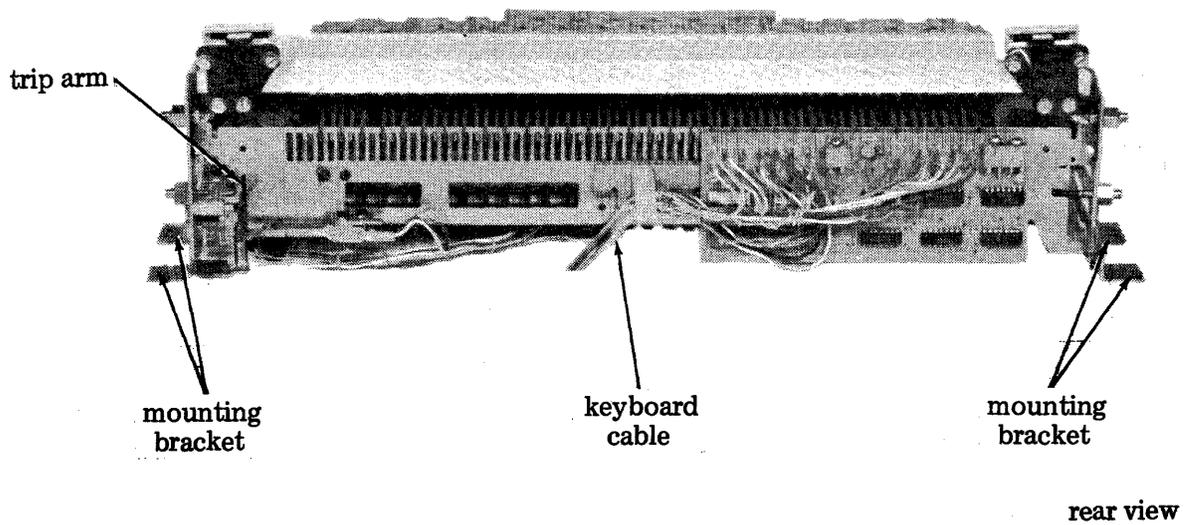

Figure 3 - Keyboard
2.05 Remove keyboard (Figure 3) as follows: